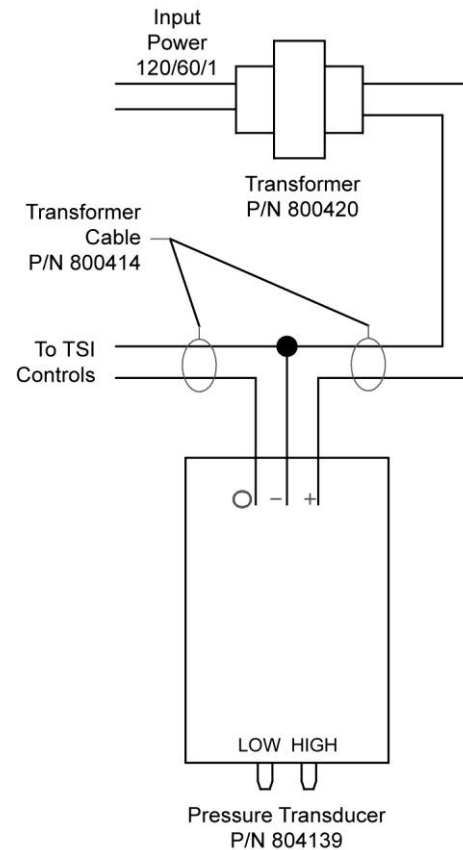

Figure 3: Transducer Wiring
- 5) Refer to the wiring diagram for proper transducer wiring (Figure 3). The cable is terminated at the pressure transducer and at the TSI controller or monitor.
Wire the transducer to the PRESSURE INPUT terminals on the TSI controller, per Figure 3. Refer to the Installation Instructions for the TSI controller to determine the correct terminals.